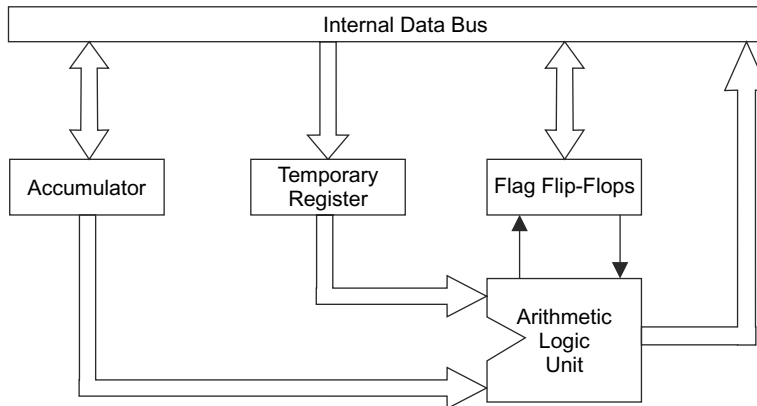

Fig. 2.5 ALU functioning
All arithmetic and logical operations are performed in the Arithmetic Logic Unit (ALU). The functioning of the ALU is given in Fig. 2.5. The ALU functioning consists of Accumulator (A), Temporary Register (TR), Flag Register (FR) and arithmetic logic unit. The temporary register is not accessible to the user. Therefore, the user cannot read the content of TR. Actually, this register is used to store or load the operand during